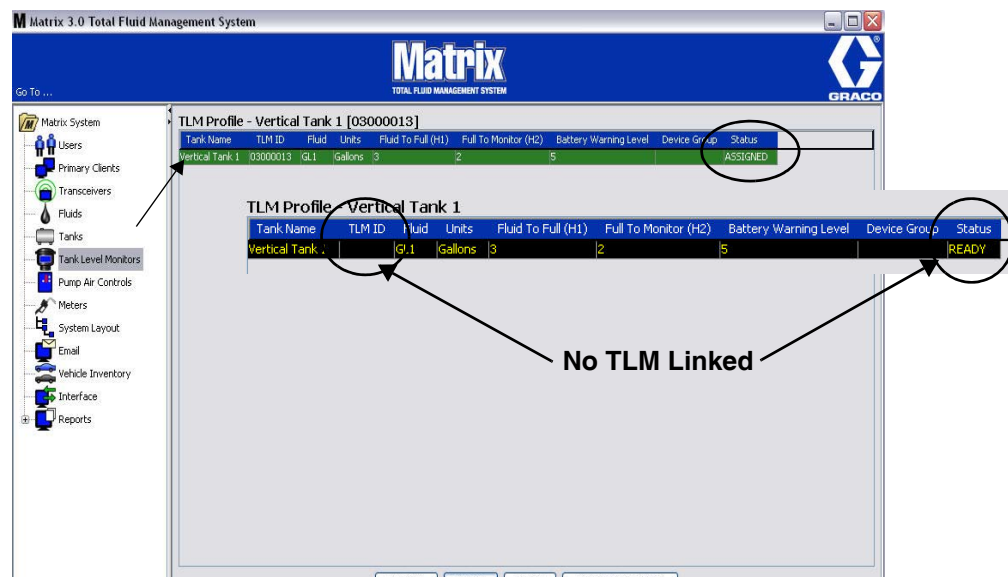

FIG. 125
3. When all fields have been completed, click the OK button on the bottom of the Add TLM Profile Screen. The profile is added to the top of the list. "Assigned" in the Status column confirms the profile is complete. "Ready" will appear in the Status column when the profile is incomplete. Notice in FIG. 125 the TLM ID field is blank indicating a TLM is not linked to Matrix system.